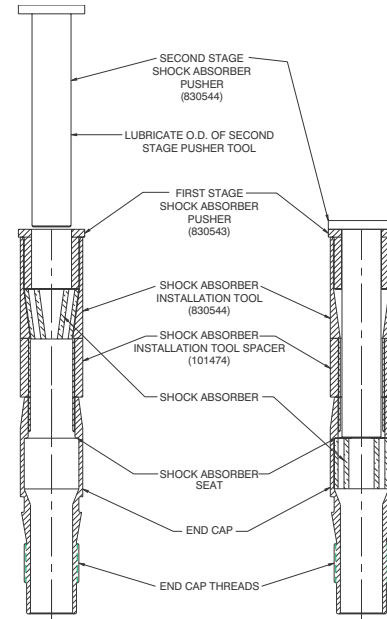

Figure 9-10. Press The Shock Absorber into The End Cap
10. Insert the the Second Stage Shock Absorber Pusher Tool, 830544, into the First Stage Shock Absorber Pusher Tool, 830543 as shown in Figure 9-10-A.
11. Press the Shock Absorber into the End Cap until it seats against the shoulder at the non-threaded end of the cap as shown in Figure 9-10-B.